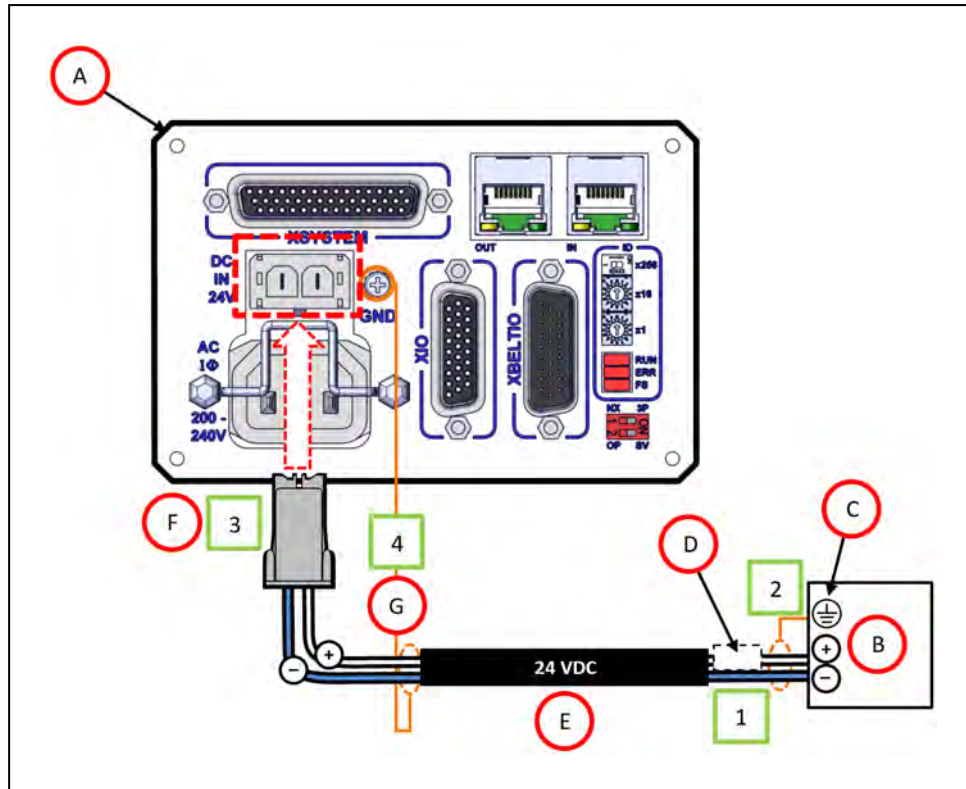

Figure 4-10. User-Supplied 24 VDC Cable, Power Supply
1. Connect one end of the shielded 24 VDC cable (E) to the 24 VDC power supply (B) observing the correct polarity.
The 24 VDC output must be less than 300 W peak or 8 Amp (max) in-line circuit protection must be provided for each connected robot. Refer to (D) in Figure 4-10. .
2. Connect the cable shield (D) to frame ground on the power supply (C).
3. Plug the mating connector end of the 24 VDC cable (F) into the 24 VDC connector on the robot interface panel(A).
4. Connect the cable shield (G) to the ground point on the robot interface panel (A).